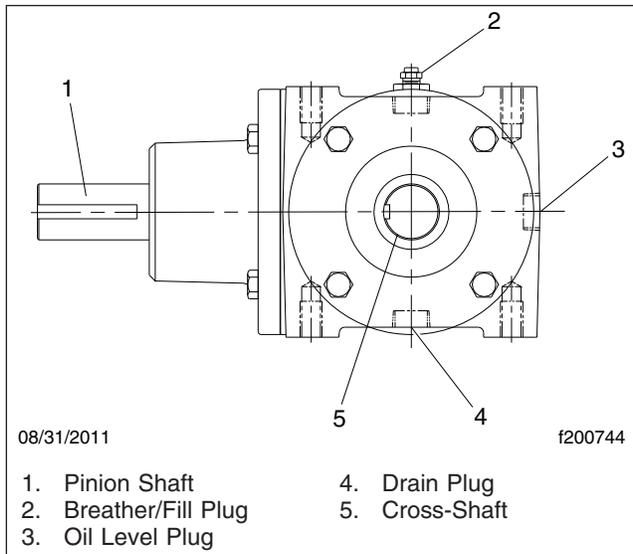

Fig. 2, Mechanical Fan Drive Gearbox
3. Remove the drain plug and breather/fill plug, shown in Fig. 2, to begin draining the oil.
4. Remove the oil level plug. See Fig. 2.